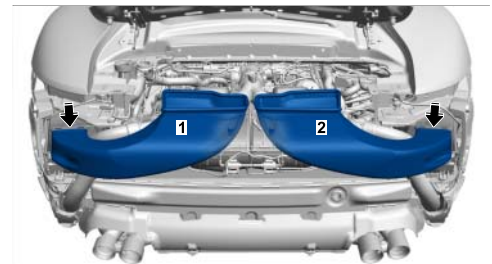

Figure 34
- 8.3 Install air guide for charge-air cooler ⇒ *Figure 34 -1, 2-*.